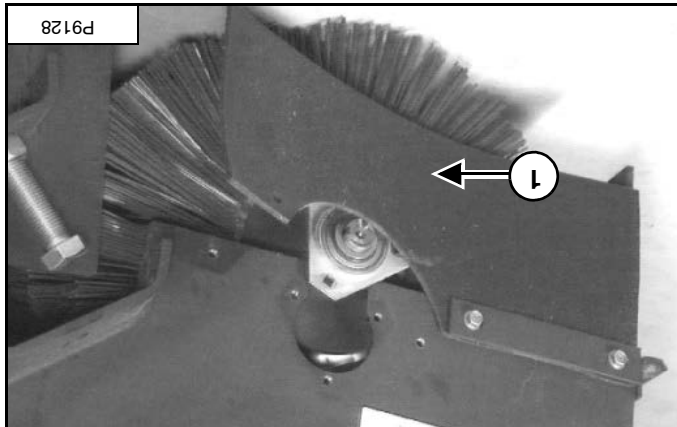

Figure 124
The rubber side cover (item 1) [Figure 124] (both ends) can be loosened or removed if needed.